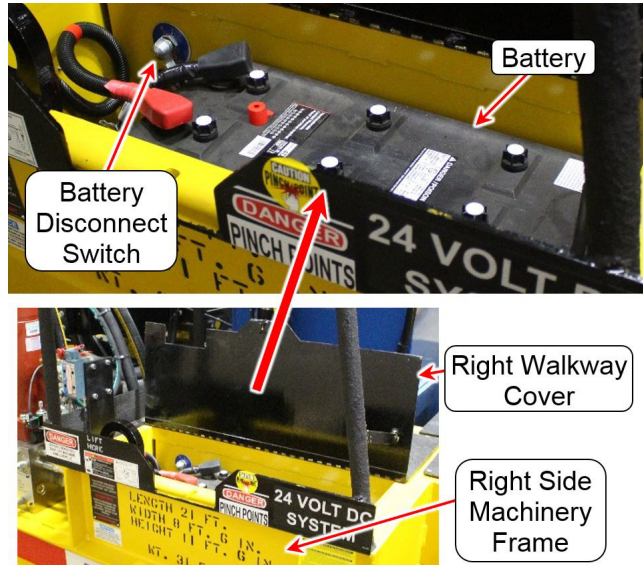

Figure 5-8: Right Battery Box
There are two (2) battery boxes on this machine, one on each side of the machine behind the cab, under each outer walkway. Each box houses a battery used to power the electrical system. The **[BATTERY DISCONNECT]** Switch (BDS) is located inside the **RIGHT** side battery box. See Figures 5-8 and 5-9.